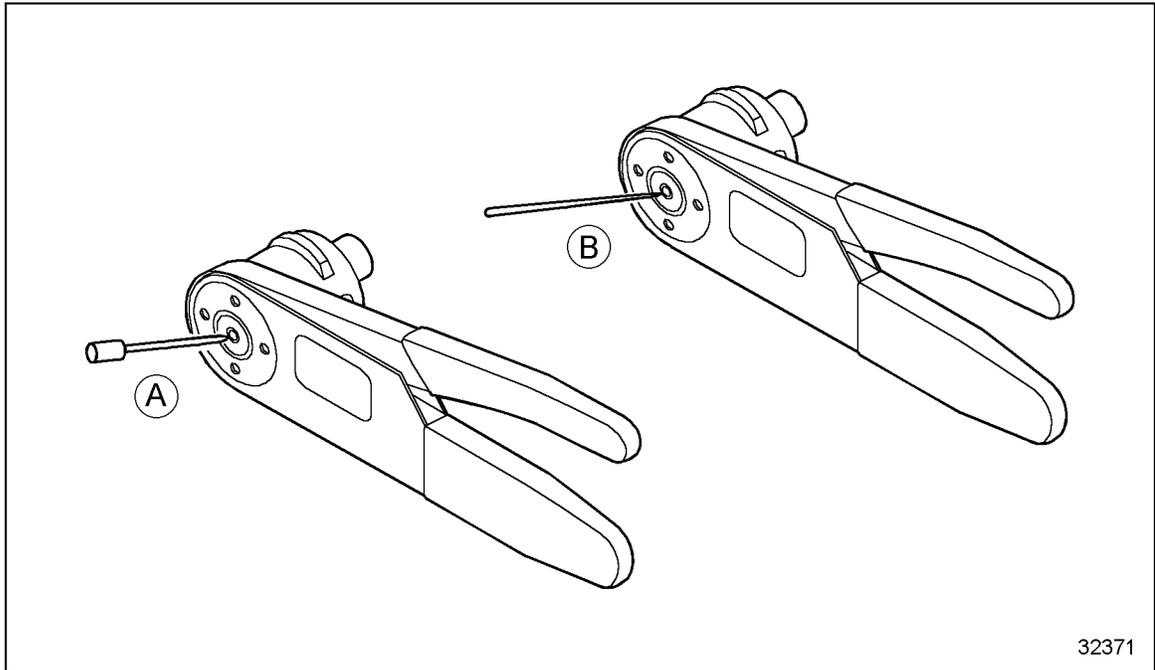

Figure 3-53 Inserting the Terminal and the Stripped Wire.
7. Drop the terminal, mating end first, into the crimp cavity. Squeeze the tool handle just enough to grip the terminal without actually crimping it (see Figure 3-53, A).
8. Insert the stripped wire into the terminal with a slight twisting motion. All wire strands must be inside the contact (see Figure 3-53, B).